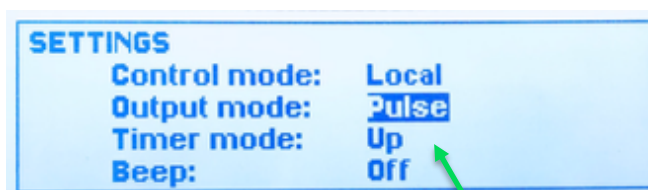

Fig.4.3.4
3. **Timer Mode:** Up or Down – Fig.4.3.4